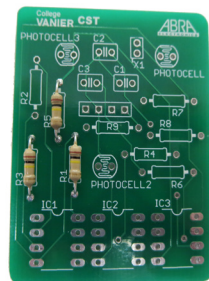

Fig.1
1. Install and solder R1, R3, and R5 (100K) resistors as per fig.1.